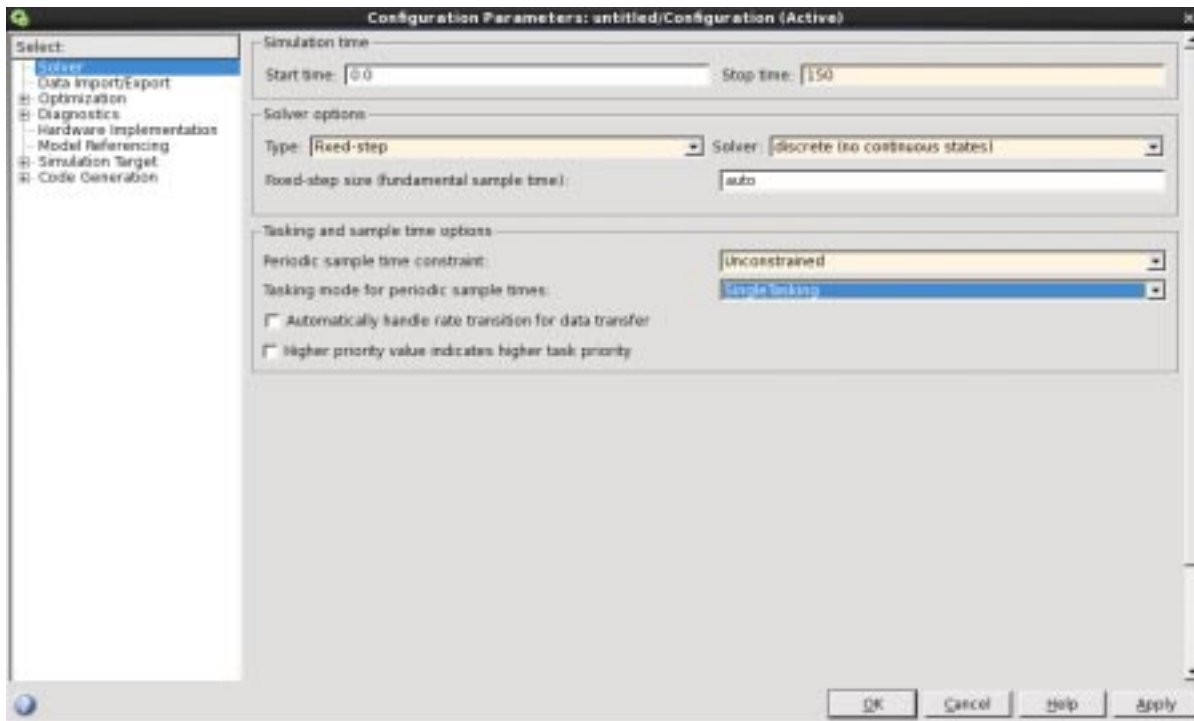

Figure 8: Setting the Configuration Parameters.
8. The next step is to specify the simulation stop time and to set some options which control the simulation. From the Simulink Model window select **Simulation -> Model Configuration Parameters**. In the Configuration Parameters window specify the following ( refer to Figure 8):